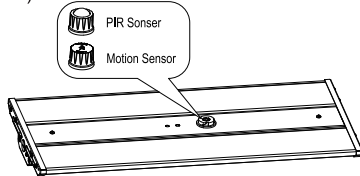

Figure 18
Step2. Twist-lock the sensor into the Zhaga base (Figure 18).